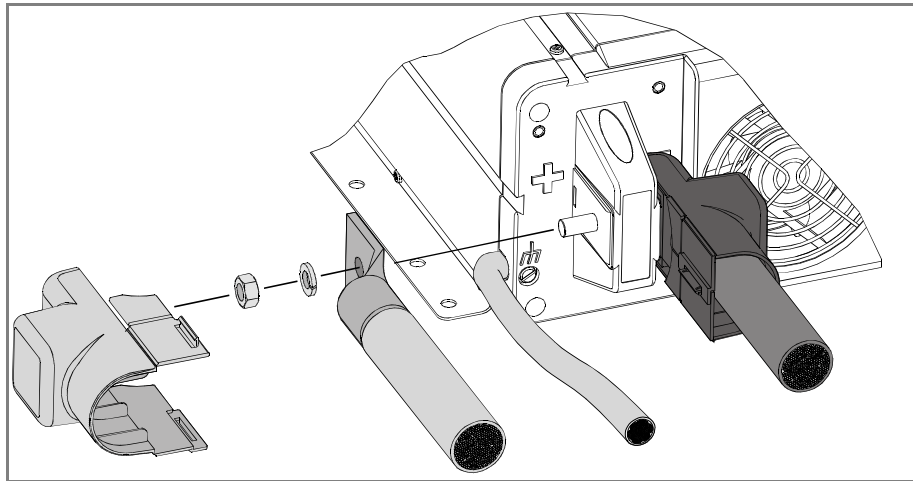

Figure 15 DC Cable Connections
Refer to Figure 15.
7. Attach the DC terminal covers. (See Figure 15, on page 33.)